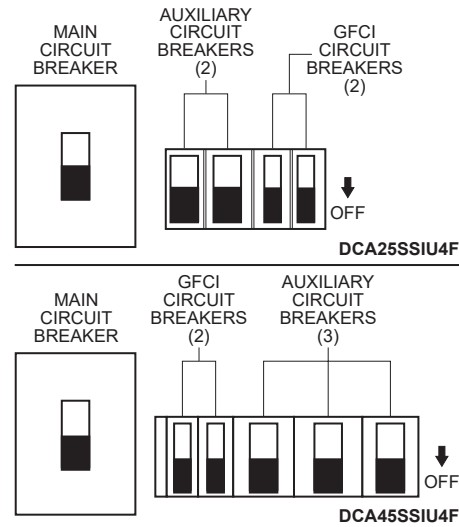

Figure 1. Main, Auxiliary, And GFCI Circuit Breakers (OFF)
1. Place the **main, auxiliary, and GFCI** circuit breakers (Figure 1) in the **OFF** position prior to starting the engine.
2. Place the **main, auxiliary, and GFCI circuit breakers** in the **OFF** position (Figure 1).